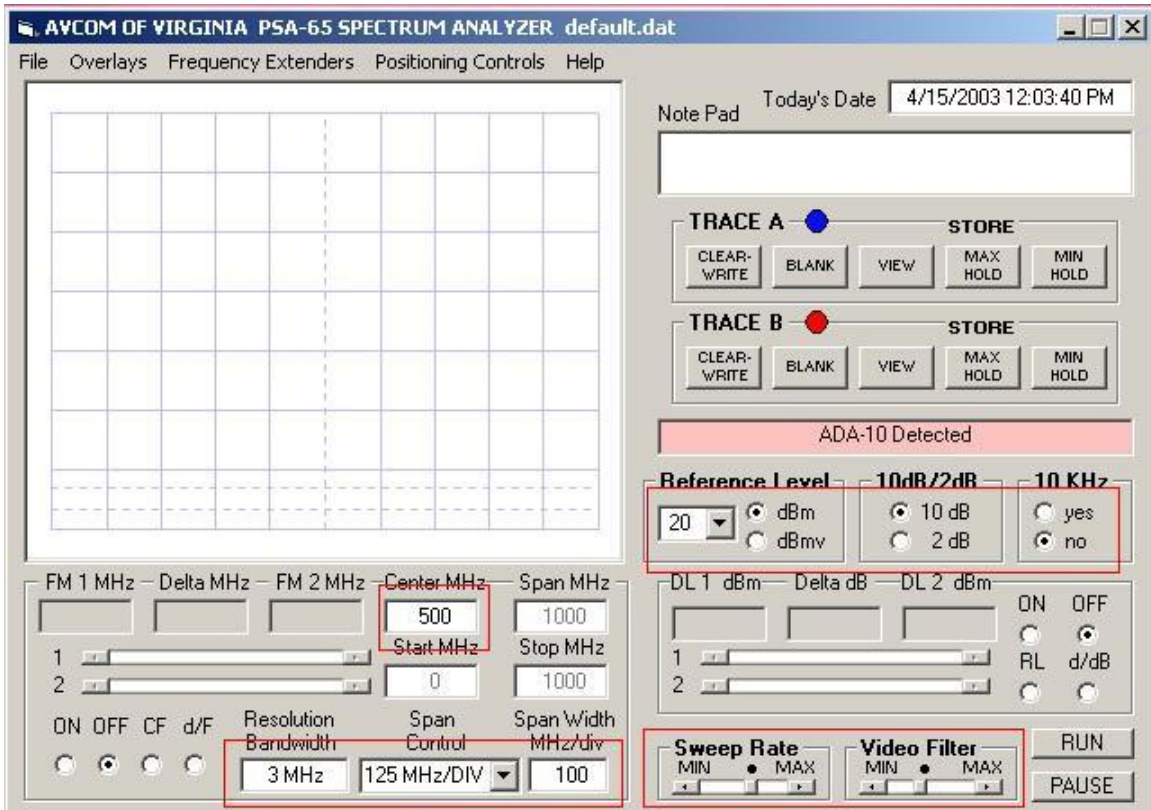

Figure 7-1
1. Figure 7-1 shows the areas that may be changed to match the analyzer. Simply click on the box, delete the current value, and key in the new information.